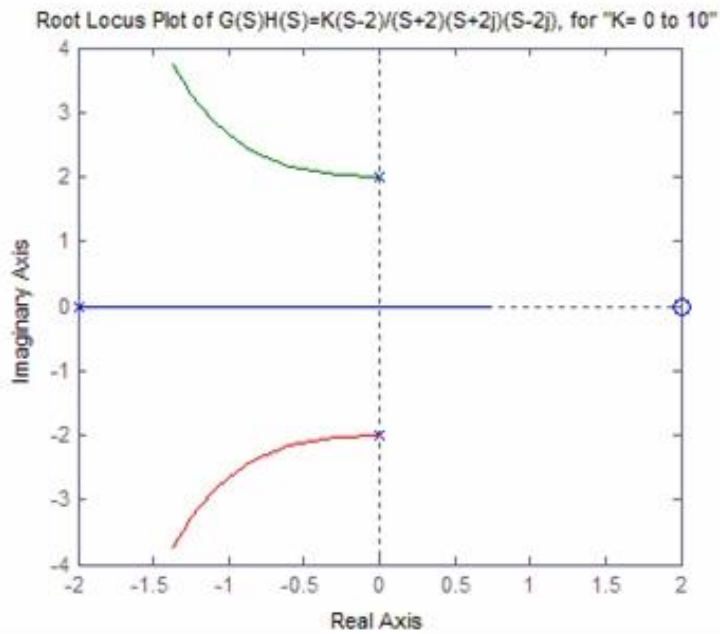

Figure 11.2a: Root locus of system for code2 for K= 0 to 10
**Observing Different Value of poles for different value of K in Figure 11.2a:**